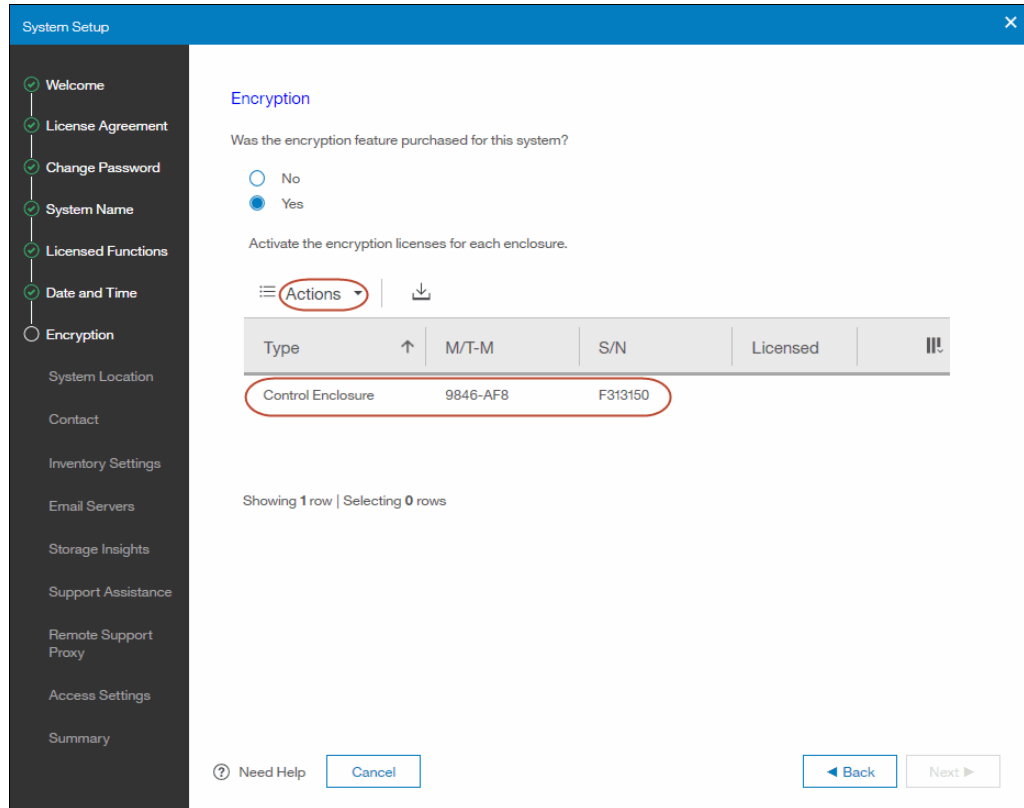

Figure 6-88 Activating the encryption feature license
1. Select the enclosure for which the encryption feature is to be activated (Figure 6-88 on page 226).
2. Select **Actions** → **Activate License Automatically** (Figure 6-88).